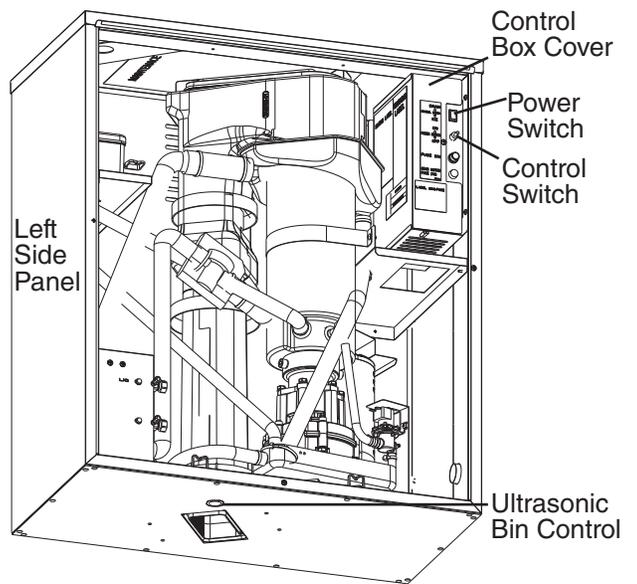
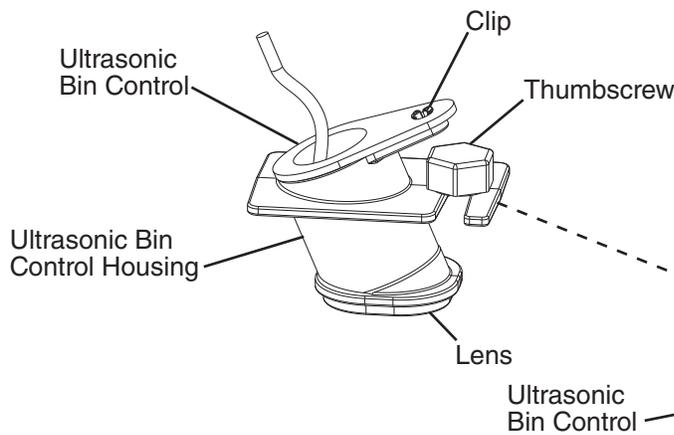

Fig. 14
Fig. 15
8) "GM" LED and "COMP" LED are on. Place an object 5" to 7" (127 to 178 mm) away from the bin control lens at the bottom of the icemaker. See Fig. 14. If the bottom of the icemaker is not accessible in your application, remove the thumbscrew securing the bin control sensor housing to the base, then remove the bin control sensor housing. See Fig. 15.
- 6) Remove the spout spring, then open the spout cover. See Fig. 14.